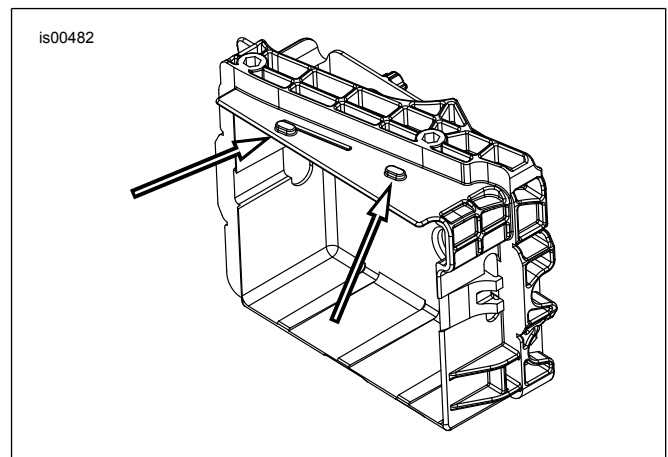

Figure 1. Position of Tabs on Battery Tray
2. See Figure 1. Remove battery cover by lifting it over the two tabs on the battery tray.